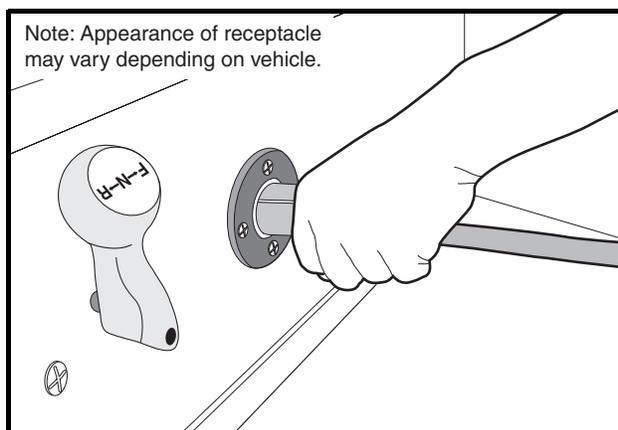
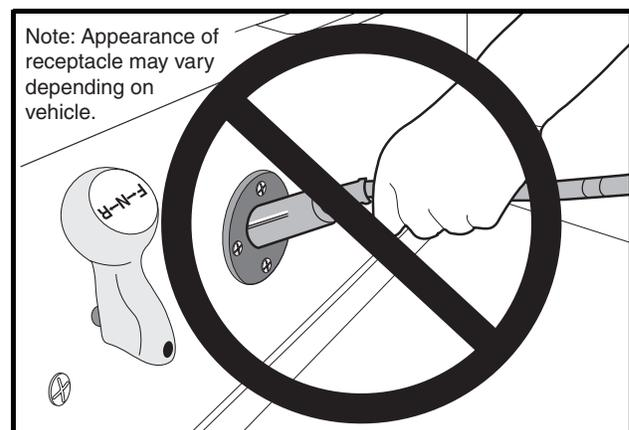

Figure 5-4 Charger Receptacle
Figure 5-5 Incorrect DC Plug Removal
- The battery charger DC plug must be pulled slowly from the receptacle (Figure 5-4, Page 5-5). Jerking or pulling the DC cord out quickly could cause arcing that could damage the plug and receptacle and could cause batteries to explode (Figure 5-5, Page 5-5).
- **The charger plug must be pulled slowly from the receptacle (Figure 5-4, Page 5-5). Jerking or pulling the DC cord out quickly could cause arcing and burning that could damage the plug and receptacle and could cause batteries to explode (Figure 5-5, Page 5-5).**
- Do not rock or bend the plug. To connect the charger plug to the vehicle receptacle, grasp the plug handle and push the plug straight into the receptacle (Figure 5-4, Page 5-5).
- Do not pull on the DC cord (Figure 5-5, Page 5-5). Do not twist, rock or bend the plug. To disconnect the charger plug from the vehicle receptacle, grasp the plug by the handle and pull the plug straight out of the receptacle.
2. Connect the charger DC plug to the vehicle charger receptacle located on the seat support panel (**Figure 5-4, Page 5-5**). The charger will activate automatically within 2 to 15 seconds after the DC plug is connected. **See following WARNING.**
- **Do not rock or bend the DC plug. To connect the charger plug to the vehicle receptacle, grasp the plug handle and push the plug straight into the receptacle (Figure 5-4, Page 5-5).**